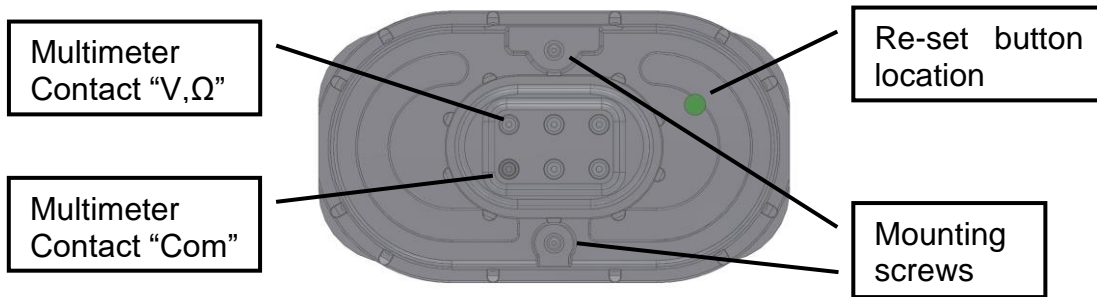
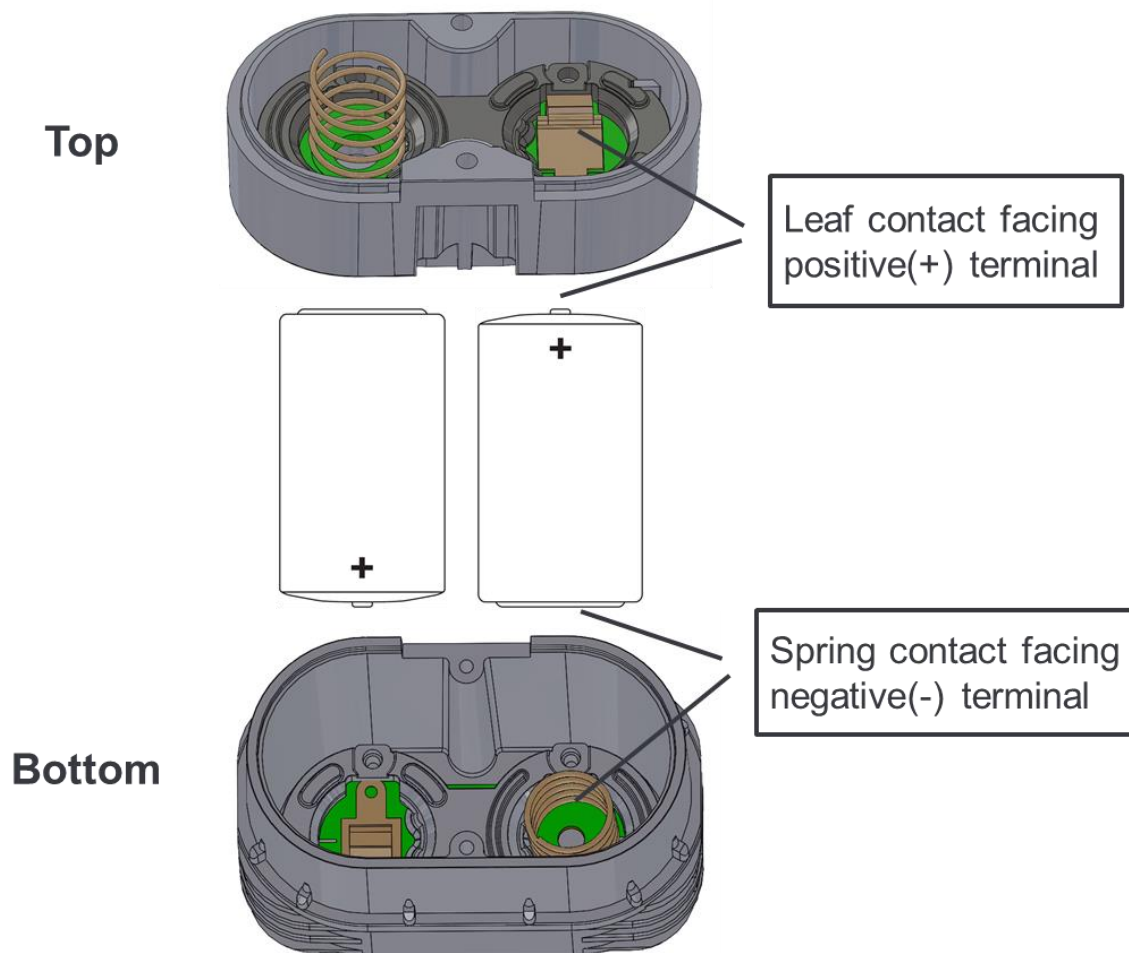

Figure 5-2: Battery pack bottom view. Correct connection of the multimeter.
Figure 5-3: Battery pack top and bottom with leaf and spring contacts facing the battery positive (+) and negative (-) terminal, respectively.
- Loosen the two battery pack mounting screws (Torx T10), see Figure 5-2. Note that the spring force is high, have therefore a firm grip around the pack while unscrewing.
- Place both battery cells in the battery pack, leaf contact facing the positive (+) terminal and spring contact facing the negative (-) terminal, cf. Figure 5-3.
- Press the button on the pack, see Figure 5-2 (the button is located behind a hole in the pack and accessible with the tip of a pen). This will indicate to the gas detector that fresh batteries are in place and re-set the charge counter. Note that only gas detectors with firmware 3.0 or later will recognize this button operation. Please contact GasSecure should the detector in question contain an older firmware version or should you be uncertain about the firmware of this detector.
Measure the voltage from the battery pack by connecting a multimeter to the terminals as shown in Figure 5-2. The nominal voltage is +7.2V. Voltages below +7.0 and above +7.8V are not allowed. Check correct direction of the battery cells, cf. Figure 5-3, if the measured voltage is outside the permissible range.